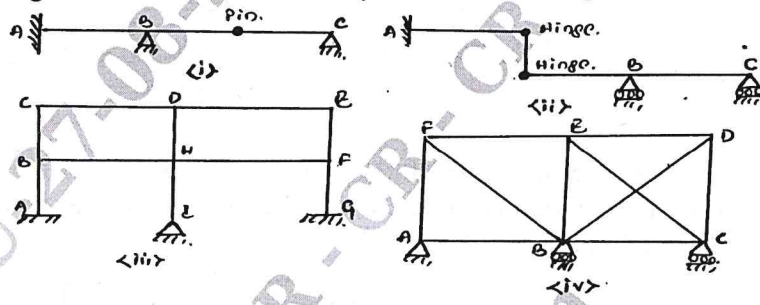

Fig.Q1(c)
- c. Determine the degree of static indeterminacy for the following structures [Refer Fig.Q1(c)]